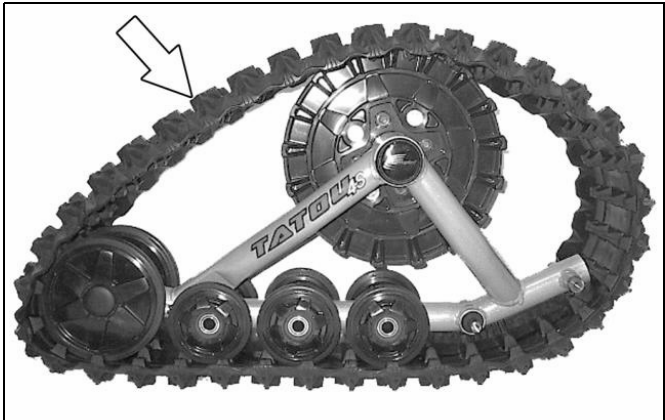

Figure 17
- Install the rubber track (refer to Figure 17).